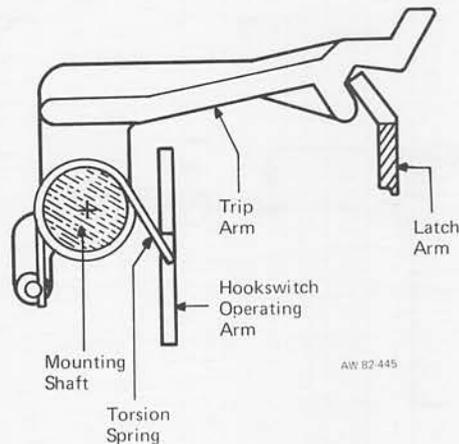

Figure 3: Installation of Trip Arm and Torsion Spring
9.02 To enable the hookswitch restoration feature, the following steps are taken: (See Figure 3.)